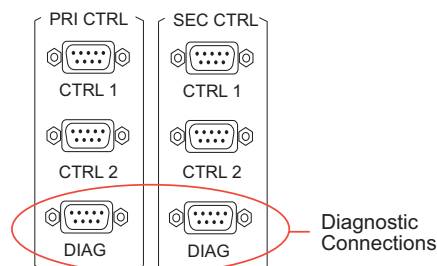

Figure 2-27. Diagnostic Connections (Rear View)
- 1 Locate the diagnostic connections on the rear of the router, as shown in Figure 2-27. The diagnostic connections are labeled 'DIAG'.